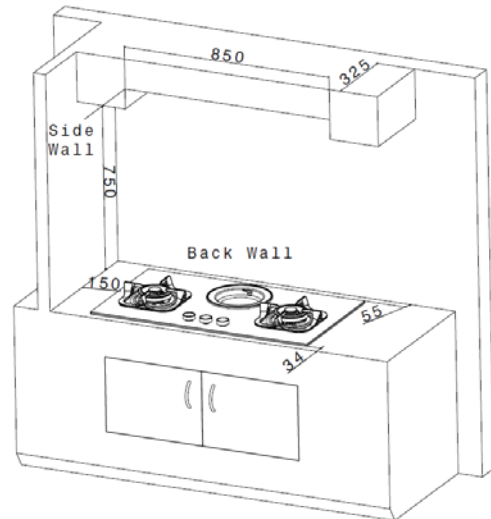

Fig. 6 (in mm)
- When fitting a vent hood above the hob, refer to the manufacturer own installations relating to that product. However as a general rule, a minimum clear vertical distance of 750mm (30") should be maintained between the cooktop and the underside of any cupboard, wall unit or vent. (Fig 6)
- Any cabinet installed above the cooktop must not be greater than 325mm (13") deep. (Fig 6)
- The edge of the hob must have a minimum distance from the rear wall of 55mm. (Fig 6)